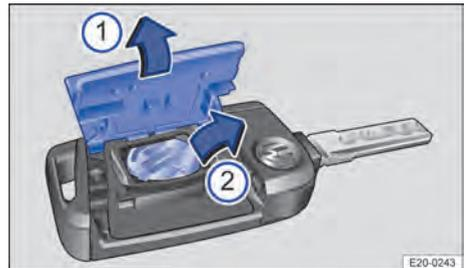

Fig. 57 Vehicle key: Replacing the button cell.
2. Lever off the cover → Fig. 57 ①.
3. Lever the button cell out of the battery compartment → Fig. 57 ②.